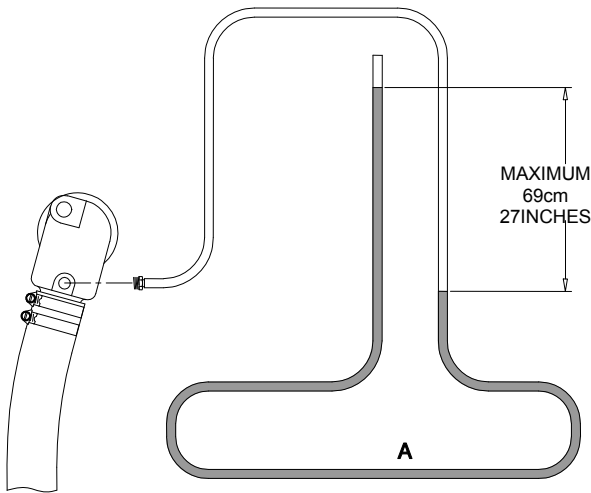

Figure:20: Measuring exhaust backpressure
- 2 The T.D.C. of compression stroke can be found by aligning the T.D.C. mark (notch) on the crankshaft pulley with the mark on the gear case (ref. to fig. 20).